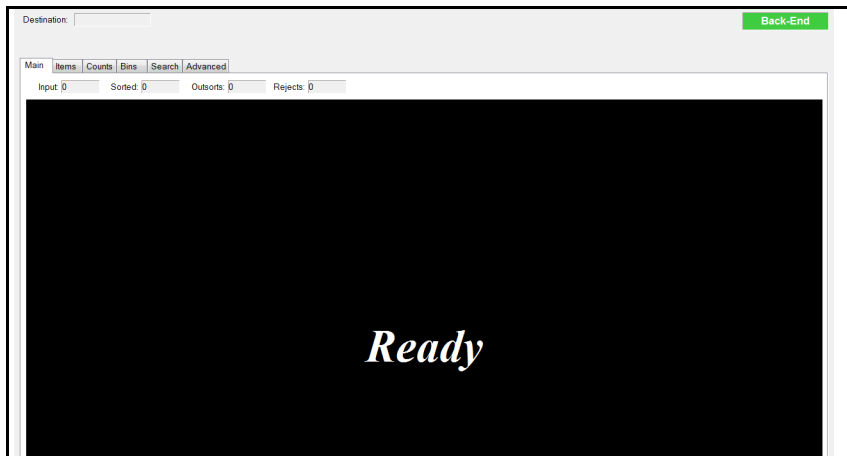

Figure 4-26: OPEX Induct ELC Screen
3. When the system is ready for the first item to be entered, the ELC software interface will display the word “Ready” (see Figure 4-26).